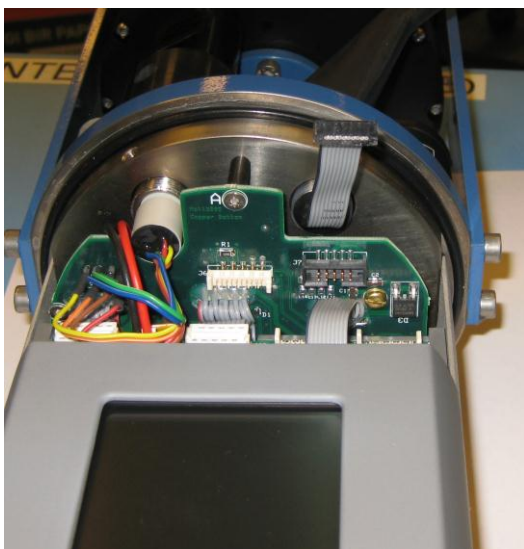

Figure 7-16 Connecting the 4784 Cable
5. Connect plug to socket on Hub-card, see figure 7-16.